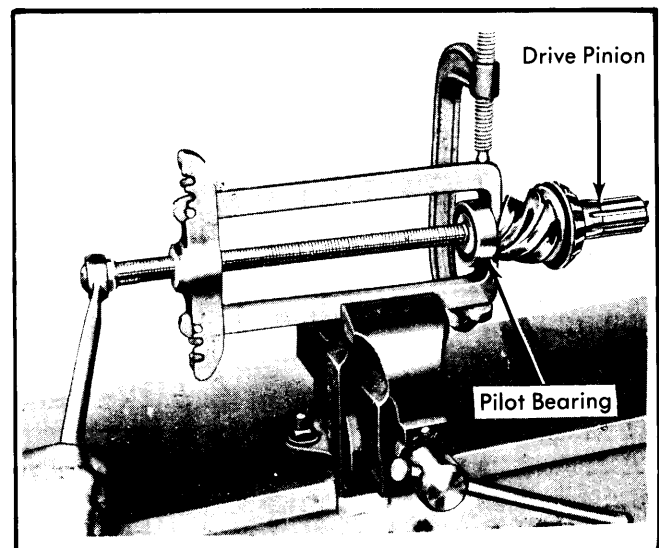

Fig. 2 Drive Pinion Pilot Bearing Removal
5) Tap drive pinion shaft out of cage with a soft hammer or press shaft from cage. Remove spacers from shaft and remove inner bearing with a suitable puller (DD-914P). Remove pilot bearing lock ring and remove bearing using a suitable puller (C-549). See Fig. 2. Remove oil seal from bearing cover.